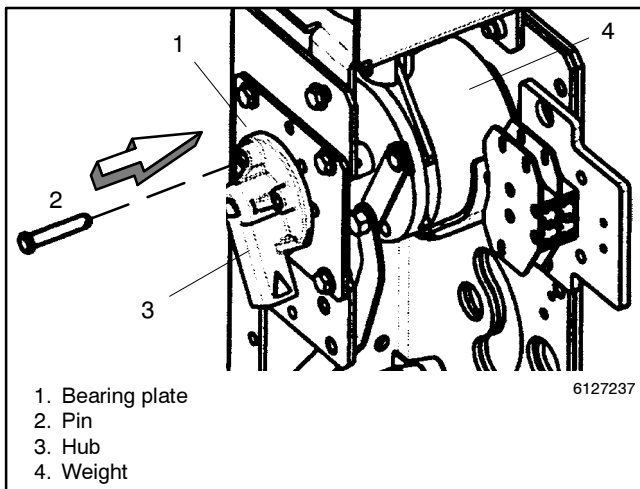

Figure 8-23 Weight Locking Pin
2. Insert the weight locking pin. To prevent the operator from moving during disassembly insert the clevis pin through the hub and into the bearing plate. See Figure 8-23.
10. Remove the weight locking pin. To unlock the weight from the bearing plate, remove the clevis pin from the hub. This is very important! Otherwise severe damage will occur when transfer switch is reenergized! See Figure 8-23.